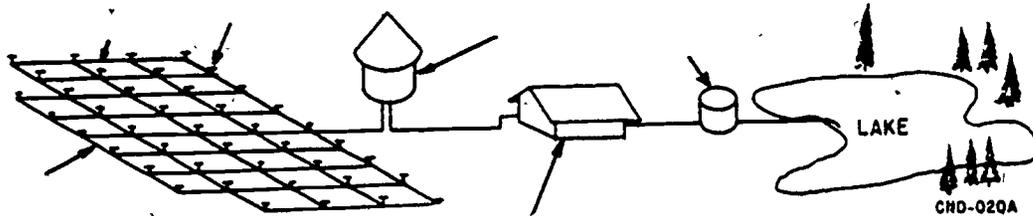

Figure 1-4. Exterior water distribution system (objective 400, exercise 1).
**Exercises (400):**
1. Without referring back to the text, identify the components of an exterior water distribution system (fig. 1-4) by writing each component's name at the correct arrow.